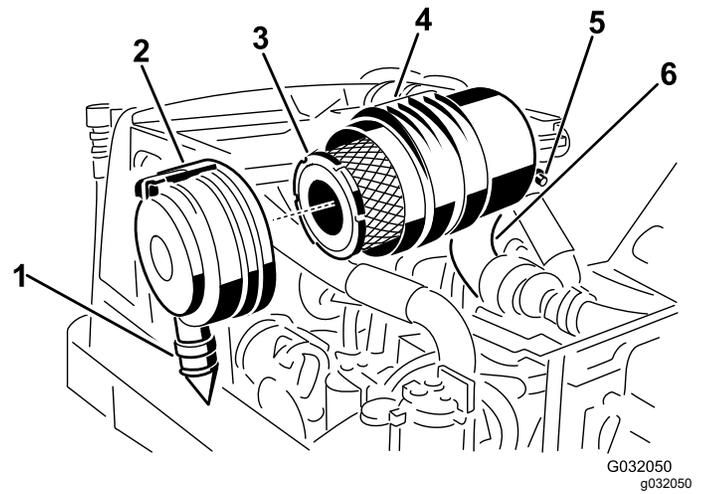

Figure 45
2. Remove the primary filter (Figure 45).
3. Replace the primary filter (Figure 45).
7. Install the cover, orienting the rubber outlet valve in a downward position between the 5 o'clock to 7 o'clock positions when viewed from the end, and secure the latch (Figure 45).